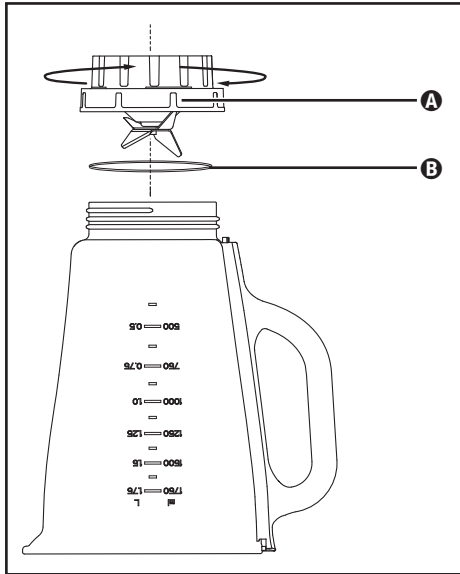

Fig. 3
- 2) Turn the appliance upside down and turn the attachment **A** with the cutting blades **4** anticlockwise so that it can be detached from the blender jug **3** (see fig. 3).